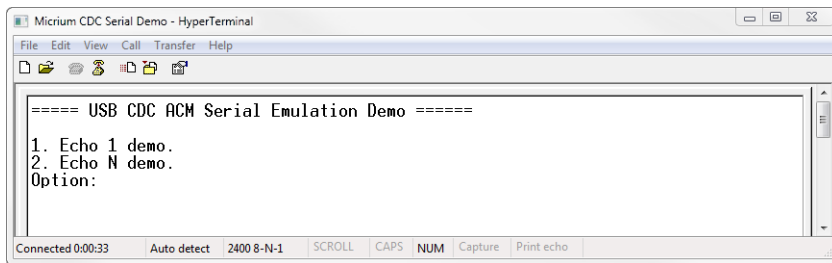

Figure 8-5 **CDC Serial Demo Menu in HyperTerminal**
- F8-4(1) Open a serial terminal (for instance, HyperTerminal). Open the COM port matching to your CDC ACM device with the serial settings (baud rate, stop bits, parity and data bits) you want. This operation will send a series of CDC ACM class-specific requests (`GET_LINE_CODING`, `SET_LINE_CODING`, `SET_CONTROL_LINE_STATE`) to your device. Note that Windows Vista and later don't provide HyperTerminal anymore. You may use other free serial terminals such *TeraTerm* (<http://ttssh2.sourceforge.jp/>), *Hercules* ([http://www.hw-group.com/products/hercules/index\\_en.html](http://www.hw-group.com/products/hercules/index_en.html)), *RealTerm* (<http://realterm.sourceforge.net/>), etc.
- F8-4(2) In order to start the communication with the serial task on the device side, the Data Terminal Ready (DTR) signal must be set and sent to the device. The DTR signal prevents the serial task from sending characters if the terminal is not ready to receive data. Sending the DTR signal may vary depending on your serial terminal. For example, *HyperTerminal* sends a properly set DTR signal automatically upon opening of the COM port. *Hercules* terminal allows you to set and clear the DTR signal from the graphical user interface (GUI) with a checkbox. Other terminals do not permit to set/clear DTR or the DTR set/clear's functionality is difficult to find and to use.
- F8-4(3) Once the serial task receives the DTR signal, the task sends a menu to the serial terminal with two options as presented in Figure 8-5.
- F8-4(4) The menu option #1 is the *Echo 1 demo*. It allows you to send one unique character to the device. This character is received by the serial task and sent back to the host.
- F8-4(5) The menu options #2 is the *Echo N demo*. It allows you to send several characters to the device. All the characters are received by the serial task and sent back to the host. The serial task can receive a maximum of 512 characters.